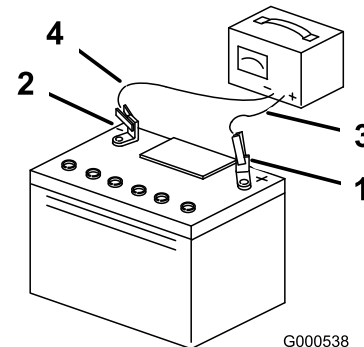

Figure 41
4. When the battery is fully charged, unplug the charger from the electrical outlet, then disconnect the charger leads from the battery posts (Figure 41).